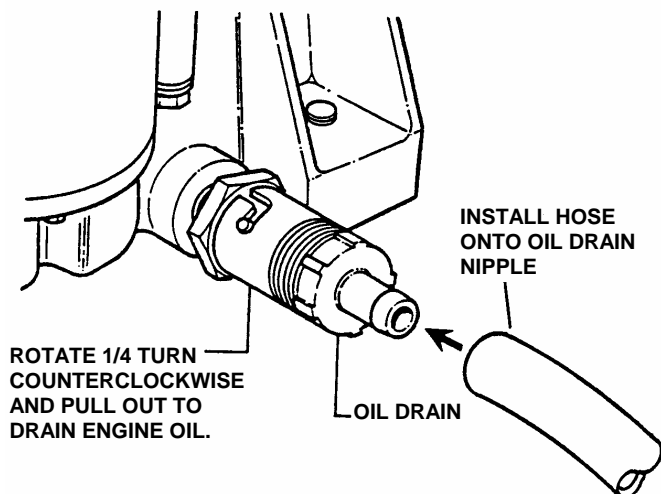

FIGURE 3.1
5. Rotate drain plug counter-clockwise and pull out to open and allow oil to drain out. See Figure 3.1.
6. After all the oil has drained, close the drain by pushing in and rotating clockwise to close. Wipe up any oil that may have spilled. Dispose of drained oil properly. See Figure 3.1.